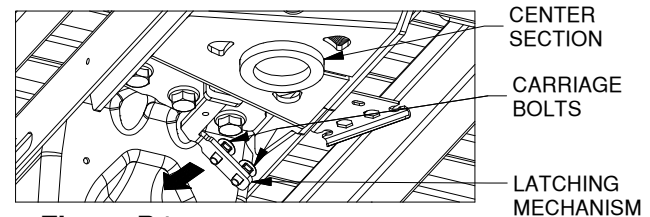

Figure D1: Looking up at center section.
- 1. Install bolts.** Retract the latching mechanism by pulling on the tab with the square holes and pushing it toward the cab. From the top down, insert a 3/8 carriage bolt in each of the square holes in the latching mechanism, see figure D1.